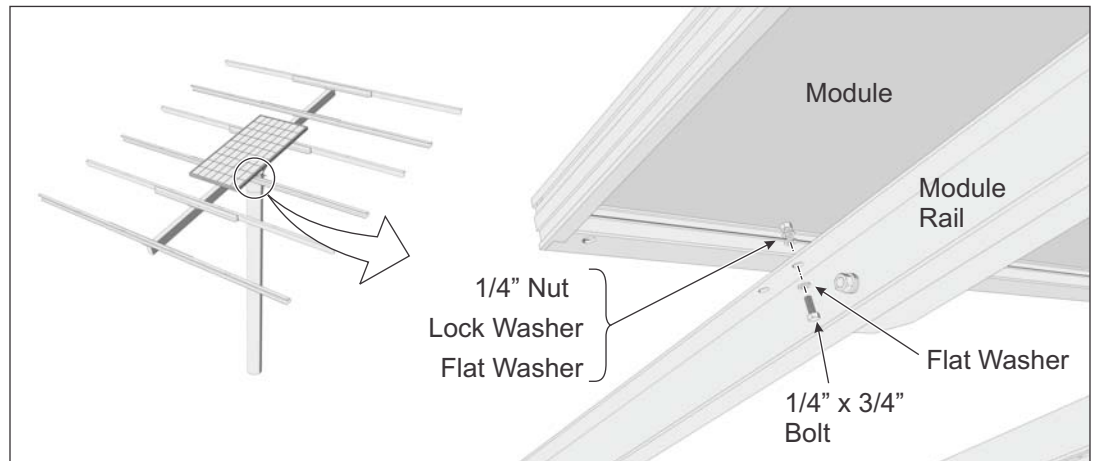

Figure 5-1: Installing PV Modules to Module Rails
- Place the southern most PV Module in place on the Module Rails. Align the mounting holes and secure with 1/4" x 3/4" bolts and hardware. Each Module has four attachment points. Finger-tighten for now. (See Figure 5-1)